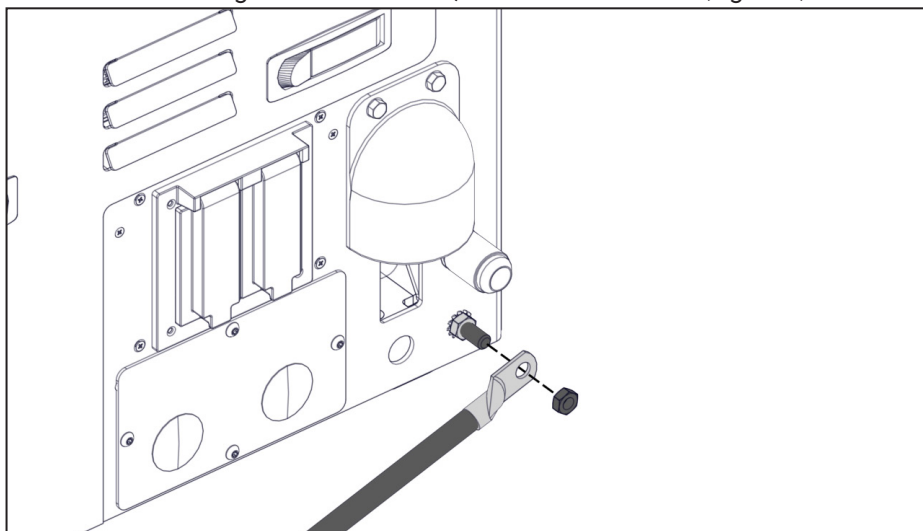

Figure 4 — Connect ground wire
- Connect a ground wire with a minimum size of 10 AWG to the ground terminal located on the engine side of the unit, next to the air outlet (Figure 4).